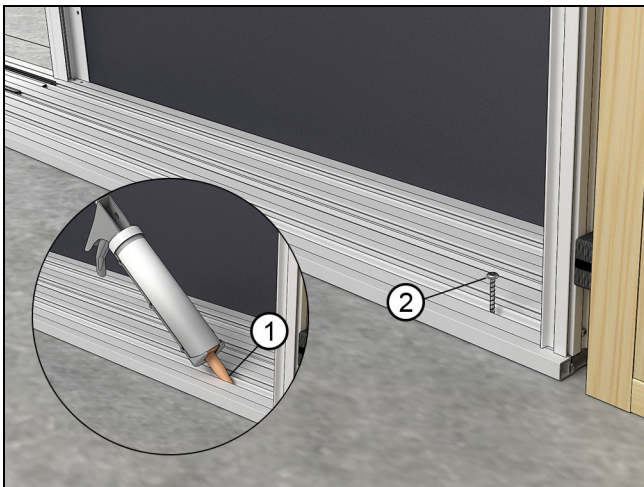

Figure 62 Fastening pocket performance sill
8. Position the frame to the correct depth inject sealant and install an anchor screw in the pocket side sill. See Figure 62.